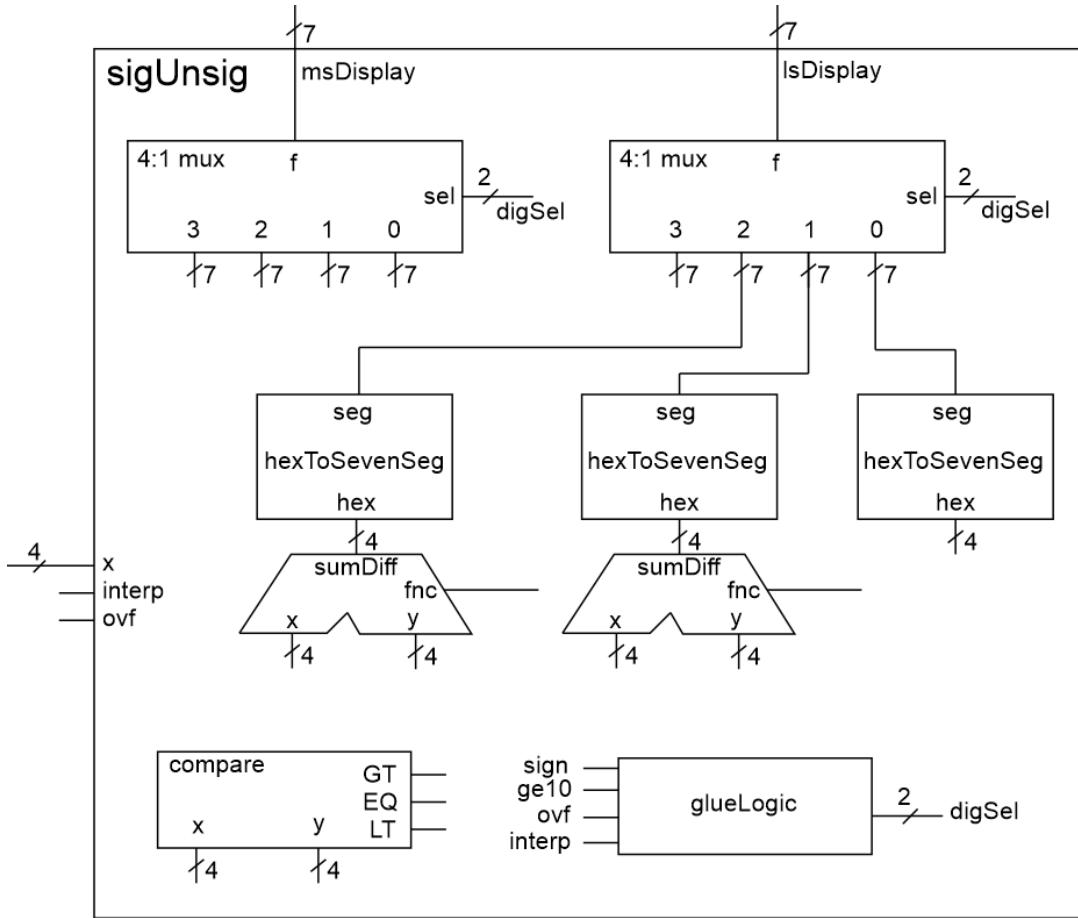

Figure 6.4: The internal architecture of the signUnsig module.
Now we are ready to put the pieces of the sigUnsig module together. The building blocks in Figure 6.4 are captured in the organization described by Listing 6.2, along with some extra hardware.
Table 6.3: The input values to the 4:1 muxes in Figure 6.4.
In addition, you should add the following to Figure 6.4:
- Complete Figure 6.4, including: